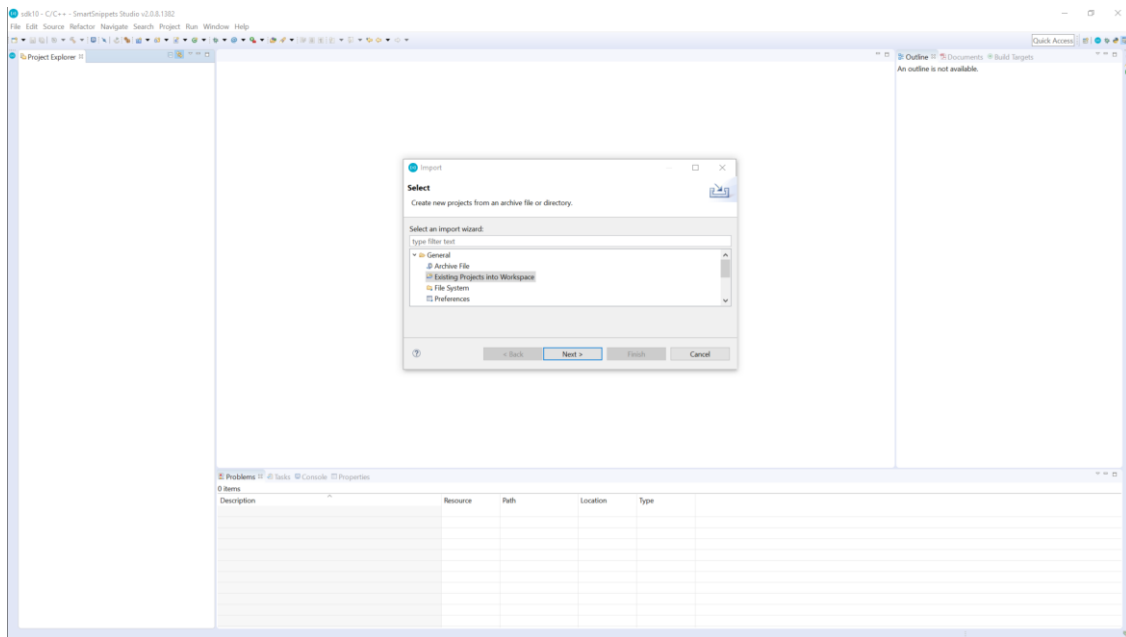
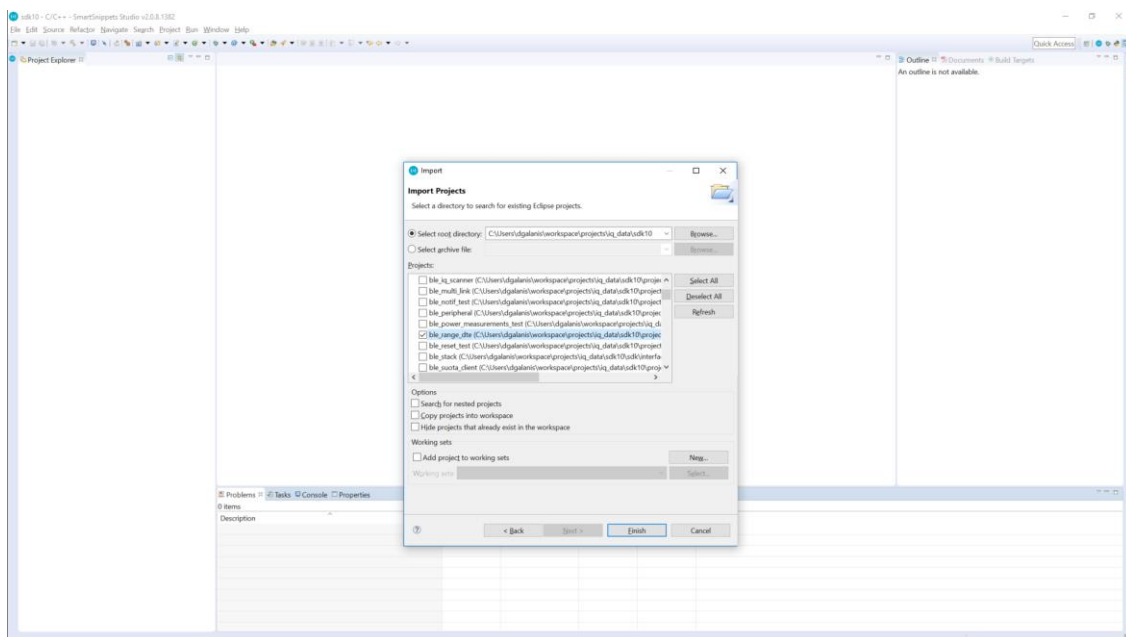

Figure 3: Import a Project into the Workspace
Figure 4: Select the ble\_range\_dte Project
- b. Select **General > Existing Projects into Workspace** >click **Next** (Figure 3) > **Select root directory** (Figure 4).